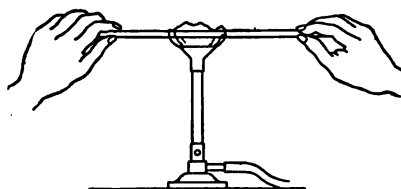
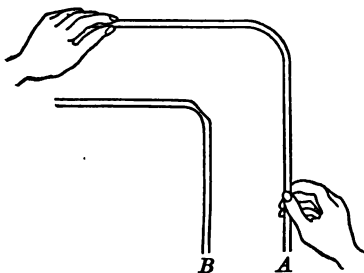

FIG. 10
FIG. 11
*b. To bend glass tubing.* Use the luminous Bunsen flame, spread out by means of the so-called "wing-top" burner (Fig. 10). Hold the tube lengthwise in the flame, gently rotating it so that all sides may be equally heated. Continue the heating until the glass *easily* bends, then quickly remove it from the flame and bend to the desired shape (Fig. 11, *A*). Great care must be taken to heat the tube uniformly, otherwise the bore of the tube will be contracted (Fig. 11, *B*), forming a bend which not only is unsightly but is easily broken.